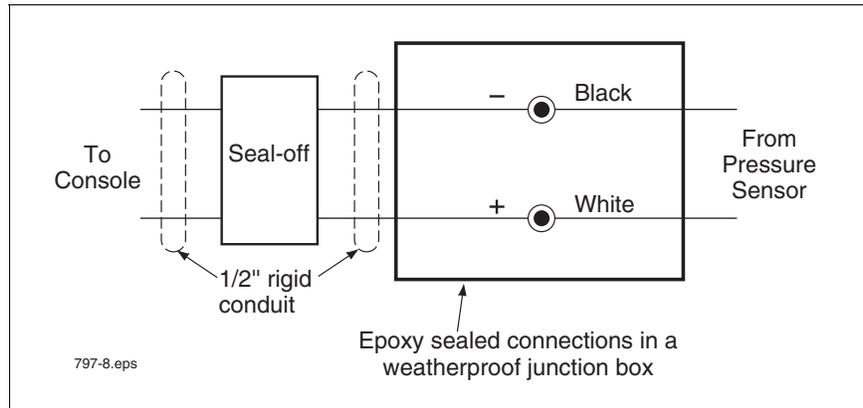

Figure 7. Field wiring Pressure Sensor - Observe Polarity
10. Screw the 59CA-4 plug, item 4, from the kit onto the left port's male connector. Make sure the valve's handle is set to connect the sensor to the vapor return line and not to the capped (ambient) port.
11. Route the cable from Pressure Sensor to the Pressure Sensor junction box in the dispenser. Observing polarity, connect the sensor wiring to the field wiring from console and cap with wire nuts (see Figure 7) - OR - terminate the wiring in the TLS RF transmitter (W2). In wireless installations, the wiring is not sealed and does not run back to the TLS console and Steps 12, 13 and 14 ARE NOT REQUIRED.
6. Install one 68CA-4-4 male connector (item 5 in Table 2) into the center port of the 3-way calibration valve, and then directly attach it to the pressure sensor inlet port (see Figure 7).